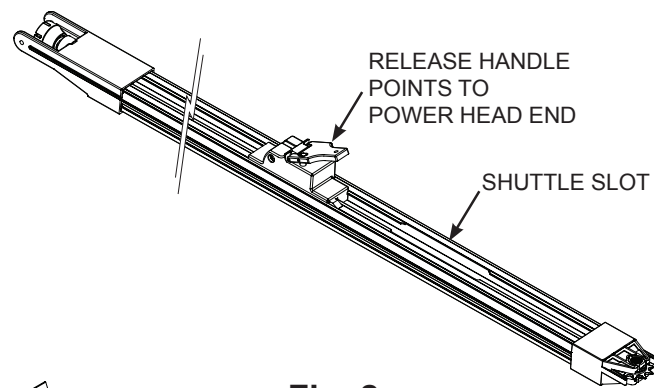

Fig. 2
- 1 Insert shuttle into slot in track ensuring that shuttle is facing the correct way - the red disengagement lever should point towards the power head not to the door (Fig. 2).